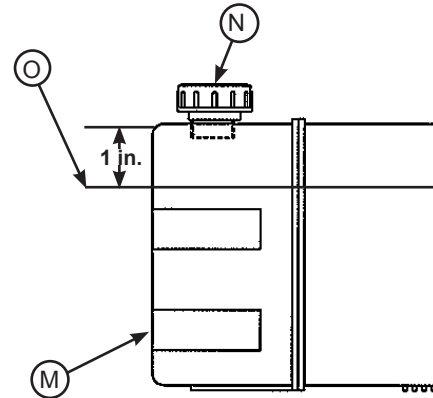
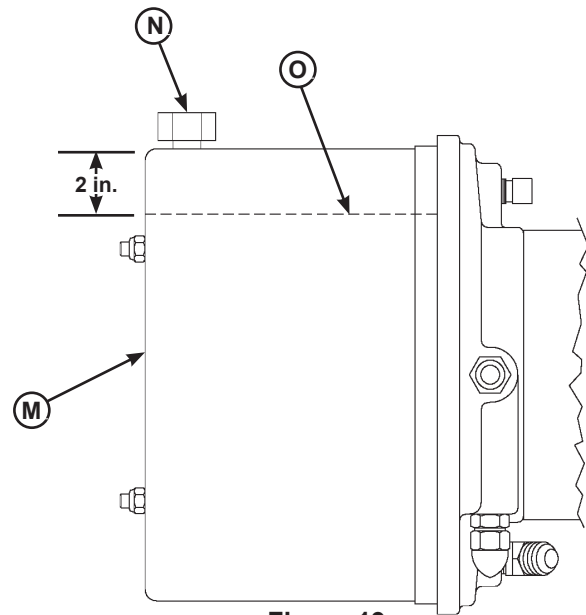

Figure 18
Figure 19
- Check reservoir fluid level (O). See Figure 18 for Self-Contained (SC) units, or Figure 19 for Remote-Mount units:
3. Remove inspection plate (C).
4. Remove breather cap (N).
5. Measure fluid level. The fluid level should be approximately 2 in. (51 mm) from top of reservoir (M) with platform at the below-dock position.